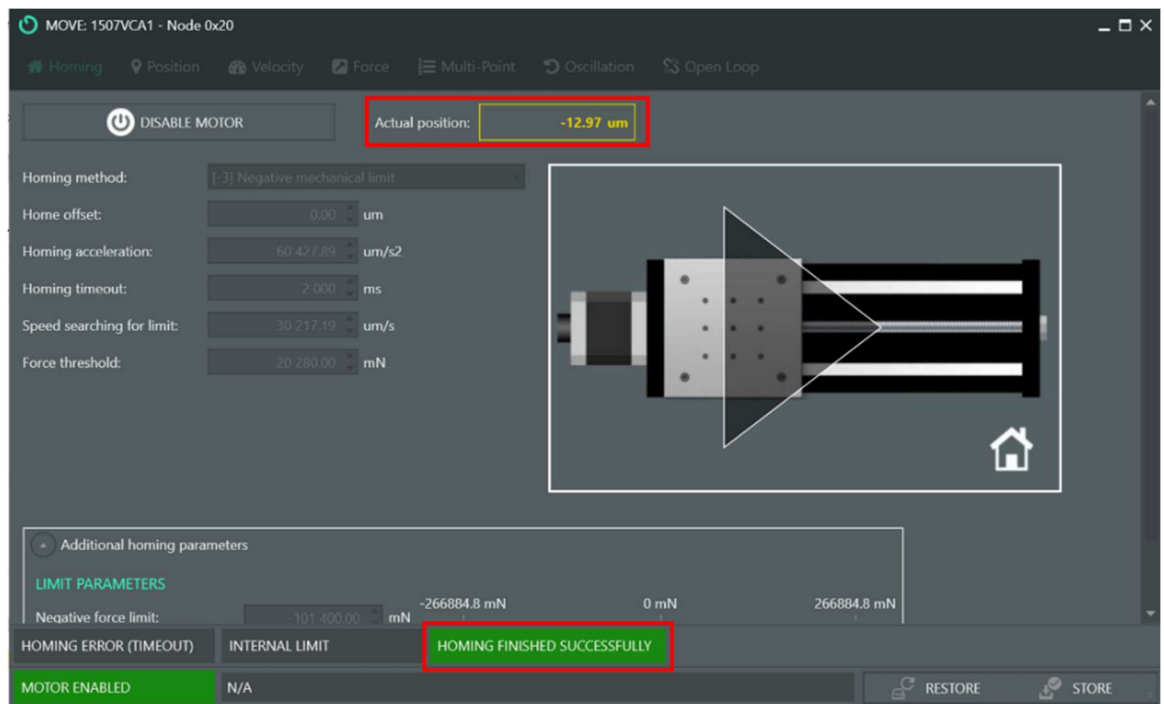

Fig. 33: Homing tab after the VCA has successfully homed.
- The VCA will "home" and the "Actual Position" tab should show a value of 0 μm (or counts) or a value close to it, as shown in **Fig. 33**.